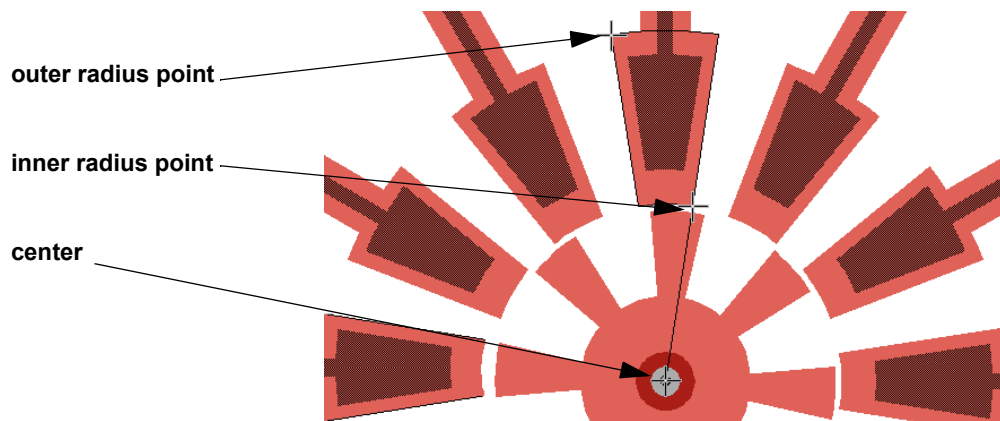

Figure 29: Creating a torus
- ☑ Left-click at the center of the incomplete motor to begin drawing the torus. Left-click again at the inner radius point, then complete the torus by right-clicking at the outer radius point (the inner and outer radius points are shown in Figure 29).